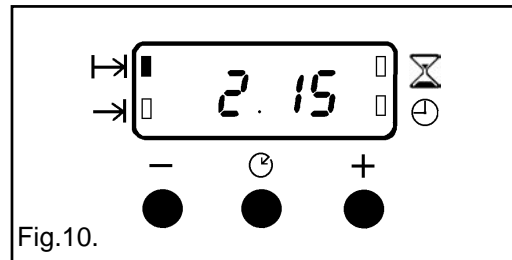

Fig.10.
- iv) To set the length of cooking time, press the Selector Control button until the 'Cook Time' (  ) indicator neon is illuminated. Press the increase control ( + ) until the required length of cooking time is displayed, e.g. 2 hrs 15 mins as Fig. 10. Depress the decrease control ( - ) if necessary.